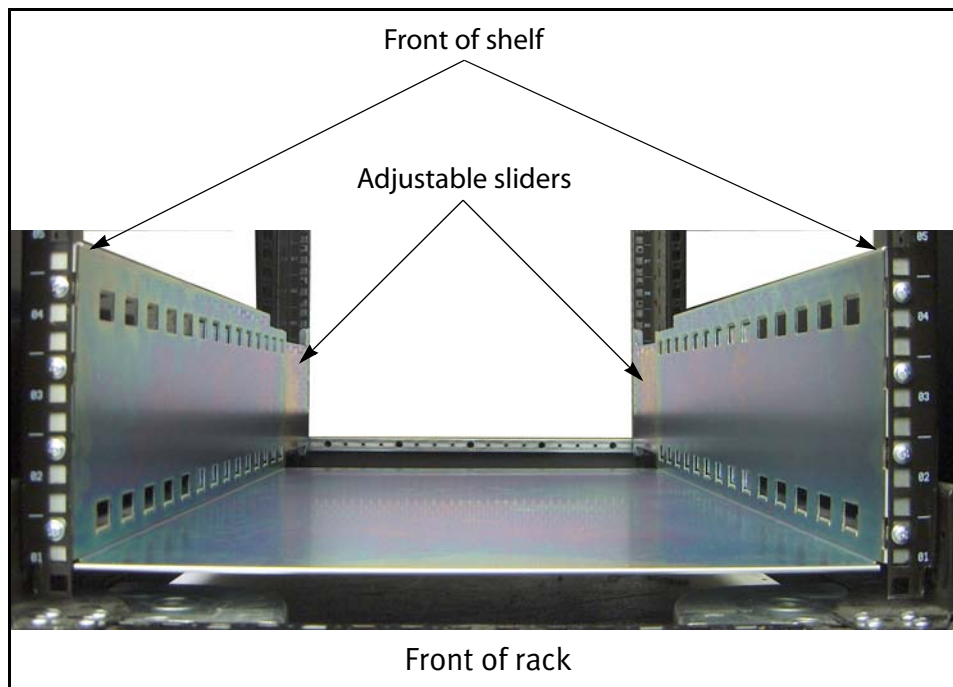

Figure 2 Position the shelf in the rack.
2. Lift the front of the shelf and align the lowest hole in the front mounting tabs with the first hole above rack position 1 on each front post (Figure 2). Make sure the tabs are behind the cut-outs in the posts. Using a #2 Phillips screwdriver, install four 10-32 x 1/2-inch SEM screws in each tab to secure the shelf to the posts. Do not tighten the screws.